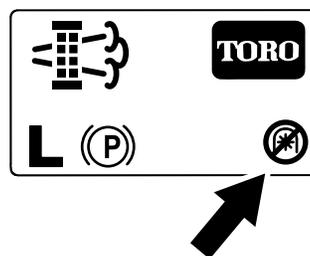

Figure 74
**Note:** The Home screen displays the PTO disabled Icon (Figure 74).
**Note:** The Home screen displays the PTO disabled icon; refer to Figure 74 in Parked Regeneration Messages \(page 46\).